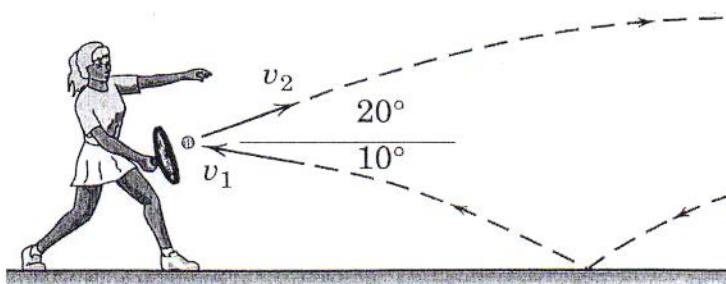

Fig. Q9
9. A tennis player strikes the tennis ball with her racket while the ball is still rising (Fig. Q9). The ball speed before impact with the racket is $v_1 = 15 \text{ m/s}$ and after impact is speed is $v_2 = 22 \text{ m/s}$, with directions as shown in the figure. If the 60 gram ball is in contact with the racket for 0.05 s, determine the magnitude of the average force R exerted by the racket on the ball. Find the angle β made by R with the horizontal.